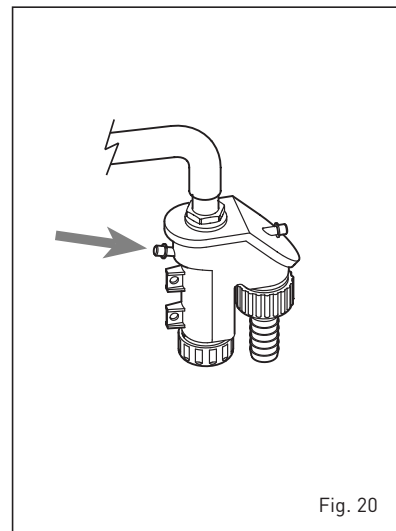

Fig. 20
4.5 MAINTENANCE (fig. 20)
If the boiler is not used for long periods of time, it is important that the condensate trap is checked and if necessary filled via the filling point provided, see fig 20.